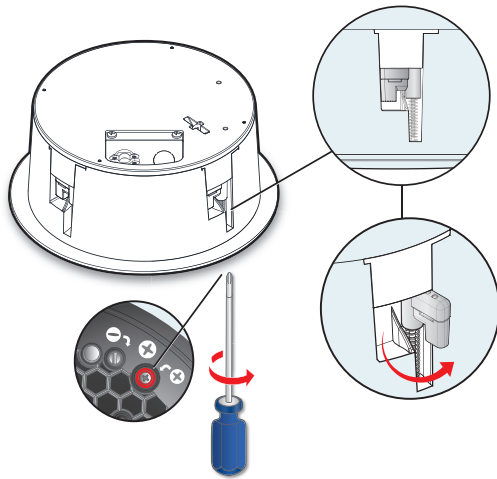

Figure 3. Accessing the Locking Arm Insert
- a. Using a screwdriver, rotate the locking arm so that the insert can be accessed (see figure 3).